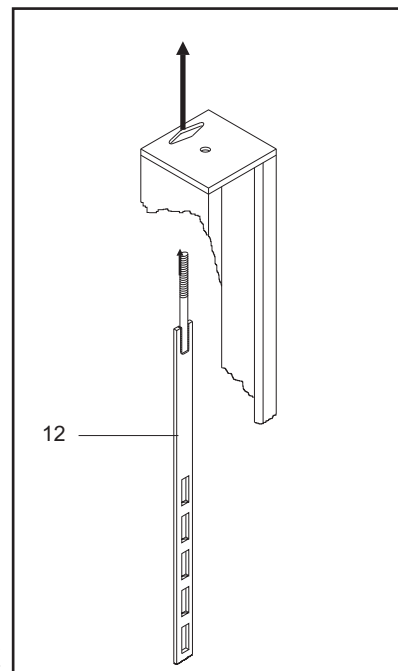

Fig.44
Remove the safety rods (12) from the top of the posts (1-2-3-4) as shown in fig.44.